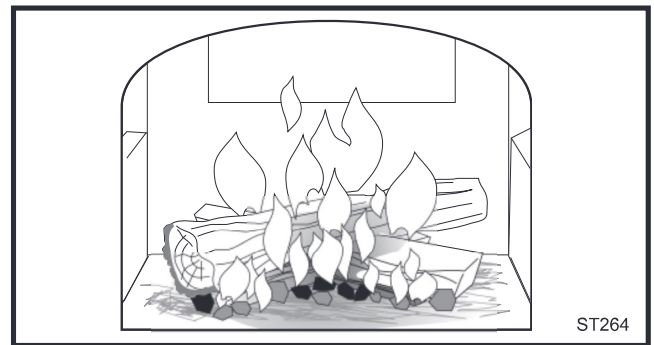

Fig. 37 Add larger pieces of wood as the fire begins to burn well.
4. **If your stove has been broken-in previously** using Steps 1-3, continue to build the fire gradually. Add larger wood with a diameter of 3-4" (76-102 mm), as in Figure 37.